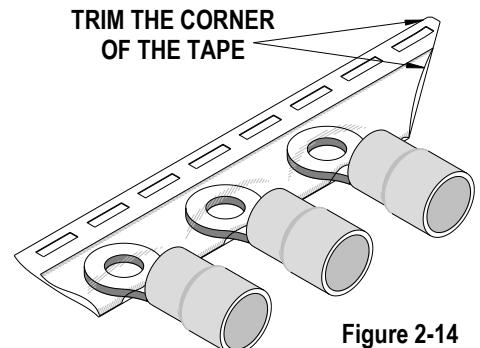

Figure 2-14
3. The tape will be easier to "start" in the track if the corner of the tape is trimmed as shown in Figure 2-14.